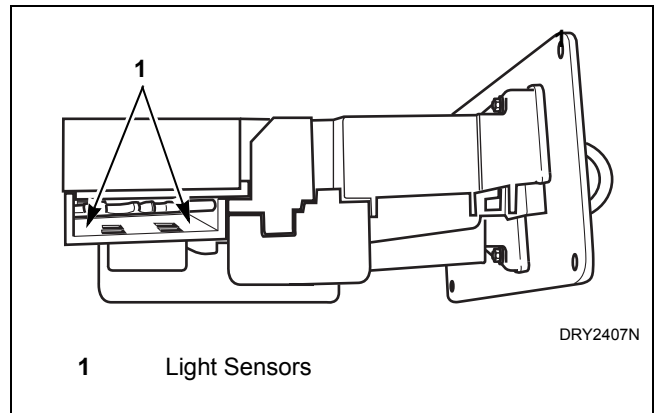

Figure 5
6. Clean light sensors with a soft brush or air spray duster. Refer to *Figure 5*.